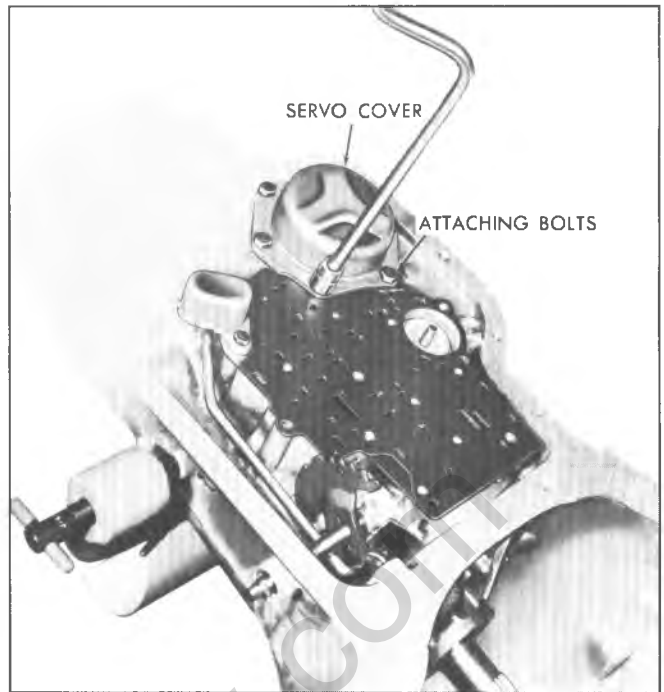

Fig. 11T-Removing Rear Servo Cover Attaching Bolts
1. Remove rear servo cover attaching screws, servo cover and gasket. Discard gasket (fig. 11T).